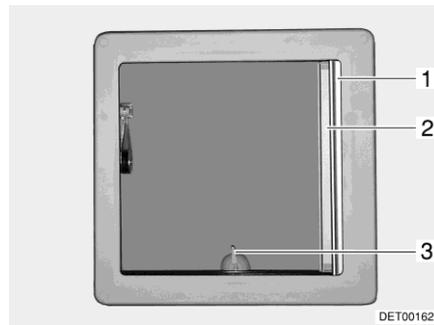
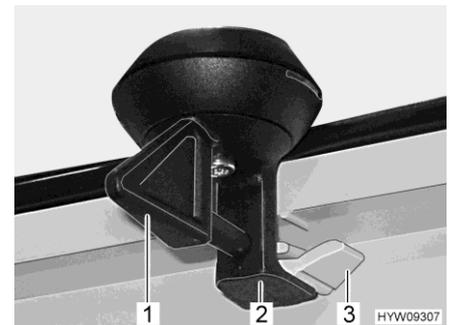

Fig. 44 Hinged skylight
Fig. 45 Lock (hinged skylight)
- Turn the lever (Fig. 44,3 or Fig. 45,1) one quarter turn.
- Turn the lever one quarter turn. The lock (Fig. 45,2) must slide into the bottom catch (Fig. 45,3).
*Closing:* ■ Pull out Roman shade (Fig. 44,1) and release in the required position. The Roman shade will stay in that position.
*Closing:* ■ Pull insect screen (Fig. 44,2) out until it engages with the latch on the opposite side.